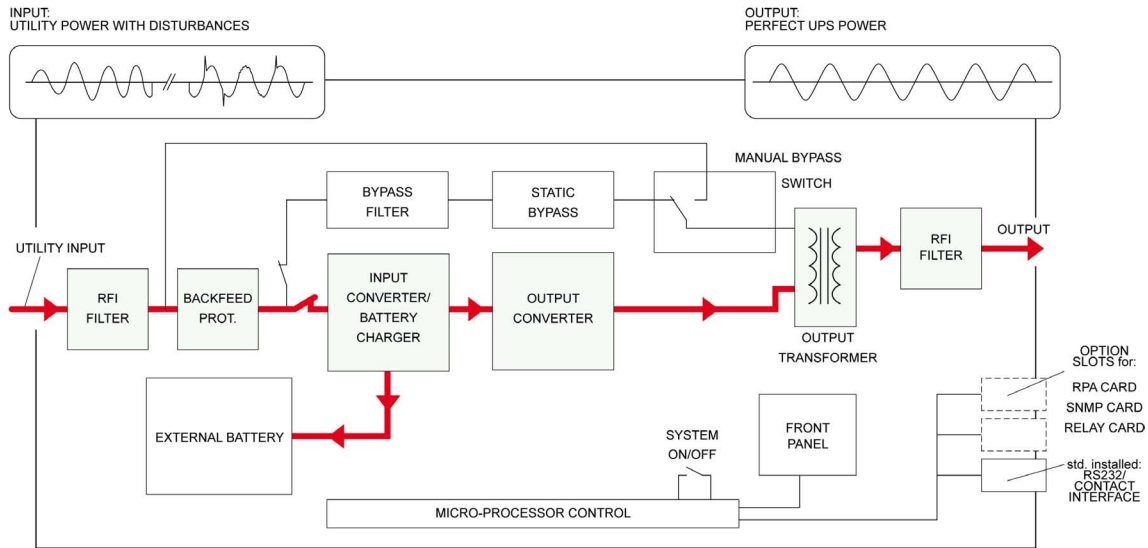

Figure 2: Block diagram of the LP11 924 UPS, utility present
Energy is stored as Direct Current (DC), while input and output energy must be Alternating Current (AC). Therefore the UPS contains an input converter (AC to DC) and an output converter (DC to AC). (fig.2)